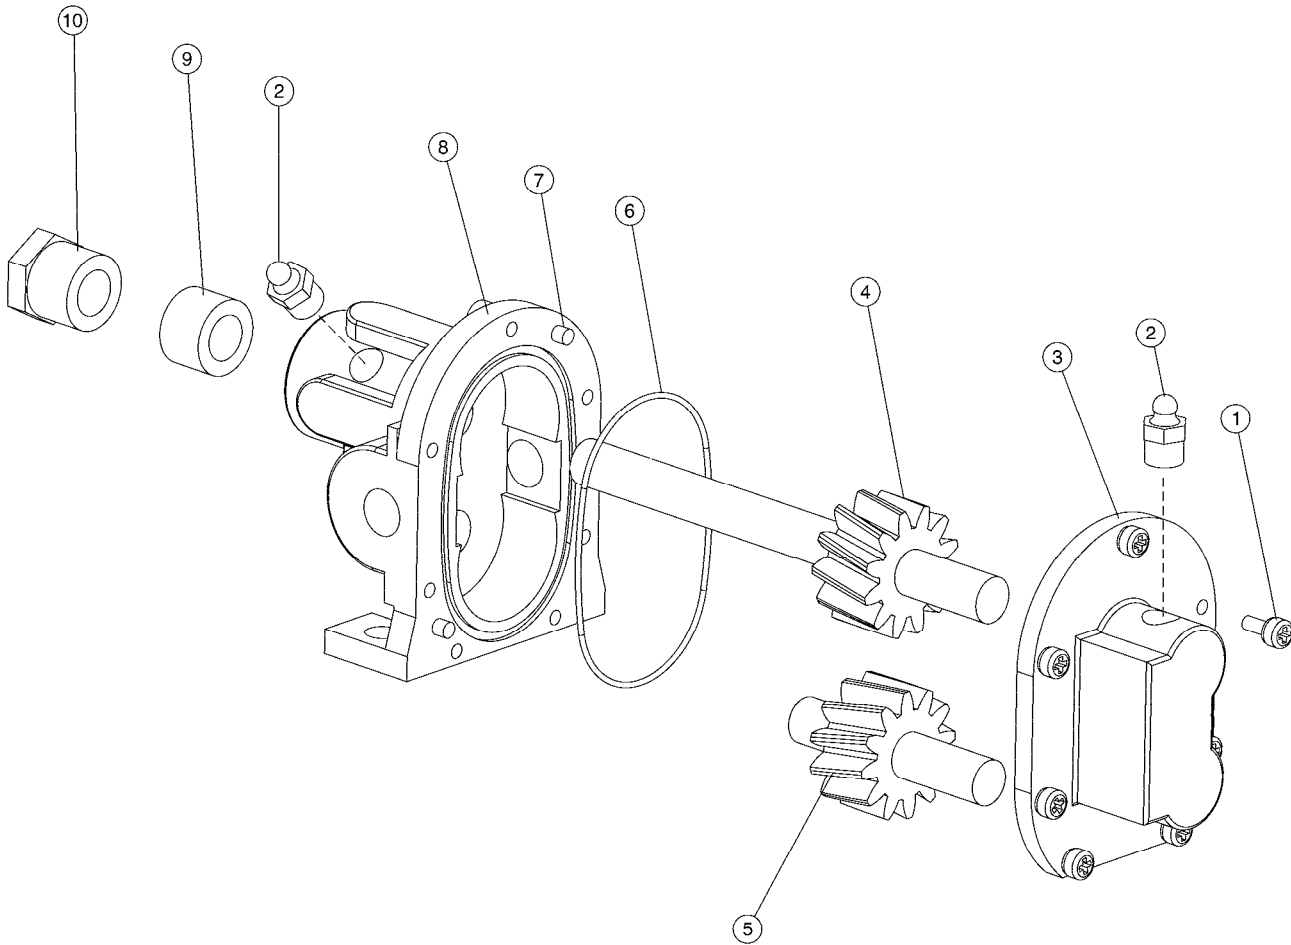

Figure 1-3. Exploded view of the External Gear Pump.
Note: *The packing nut and the components inside the External Gear Pump are shown in Figure 1-3.*
- 1. Refer to Figure 1-3 to locate and identify the various components of the External Gear Pump.